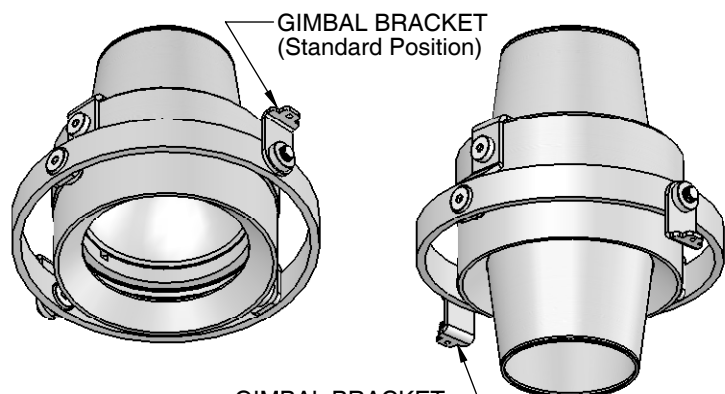

Figure 9
17. Once removed, flip the two (2) GIMBAL BRACKETS around (180°) and tighten the joint if necessary. See Fig. 9. If necessary, please see Step 21 for gimbal tightening instructions.